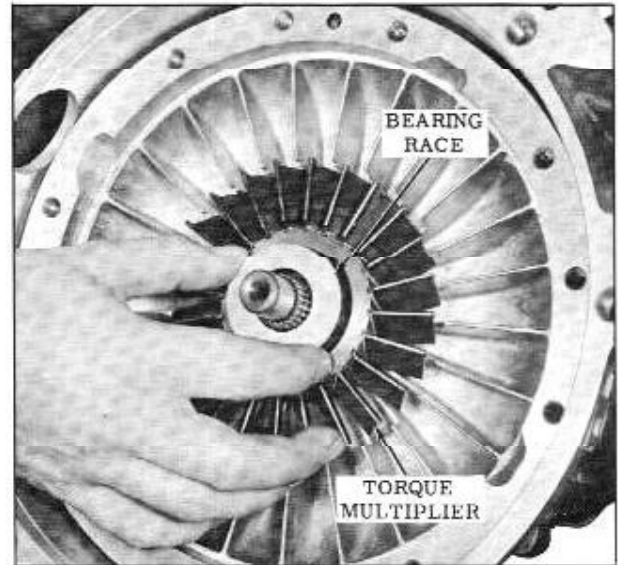

Fig. 3-109 Torque Multiplier Bearing Race
38. Install the flat bearing race into torque multiplier. (Fig. 3-109)